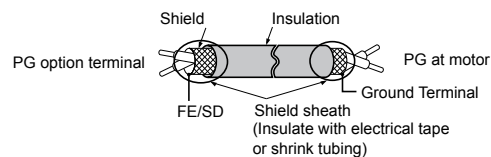
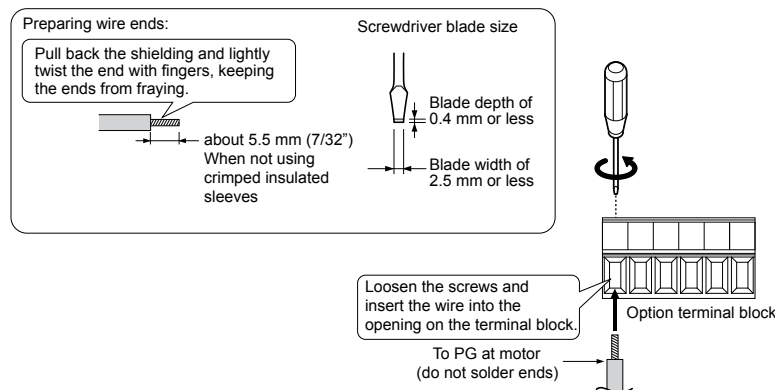

Figure 8.7 Preparing Ends of Shielded Cable
Figure 8.8 Preparing and Connecting Cable Wiring
2. There are two screw holes on the drive for use as ground terminals (H). When connecting three options, two ground wires will need to share the same drive ground terminal.
- 4.** Prepare and connect the wire ends as shown in Figure 8.7 and Figure 8.8. Refer to Wire Gauges and Tightening Torques of PG-X3 Option on page 482 or Refer to Wire Gauges and Tightening Torques of PG-X3 Option on page 482 to confirm that the proper tightening torque is applied to each terminal. Take particular precaution to ensure that each wire is properly connected and that wire insulation is not accidentally pinched into electrical terminals.